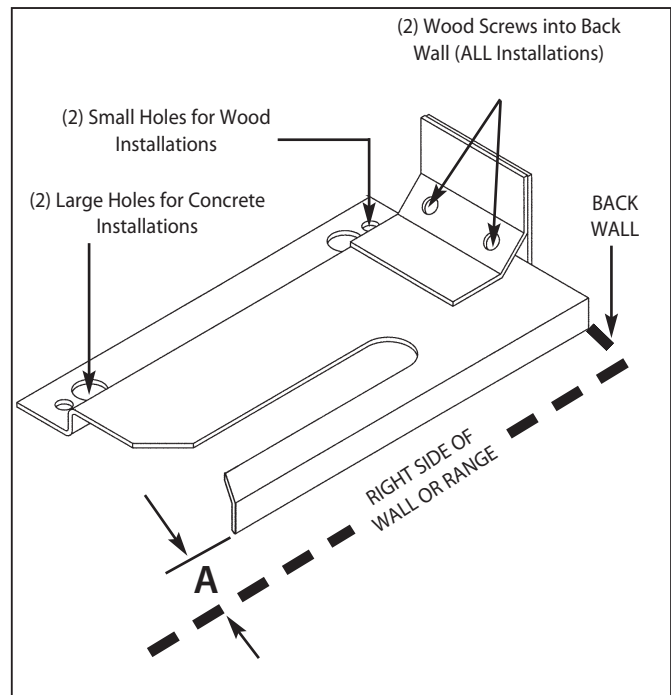

Fig. 8
Place the bracket against the back wall, into the right rear corner where the range is to be located. Leave a gap between the wall (or side of range) and the bracket (see fig. 8). Drill (2) 1/8" diameter pilot holes in the center of the small holes. A nail or awl may be used if a drill is not available. Fasten the bracket securely to the floor and wall.